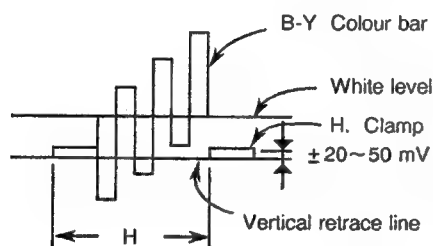

Figure 2.
4. Adjust LM02 so that the white level in picture part reaches to the vertical retrace line. (See figure 2.)